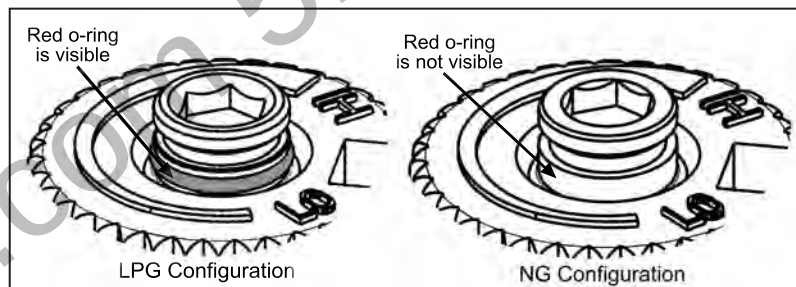

Figure 12: O-ring on valve screw.
f) Verify that if the conversion is from NG to LPG, the screw must be re-assembled with the red o-ring visible (refer to Figure 12). If the conversion is from LPG to NG, the red o-ring of the screw must not be visible.